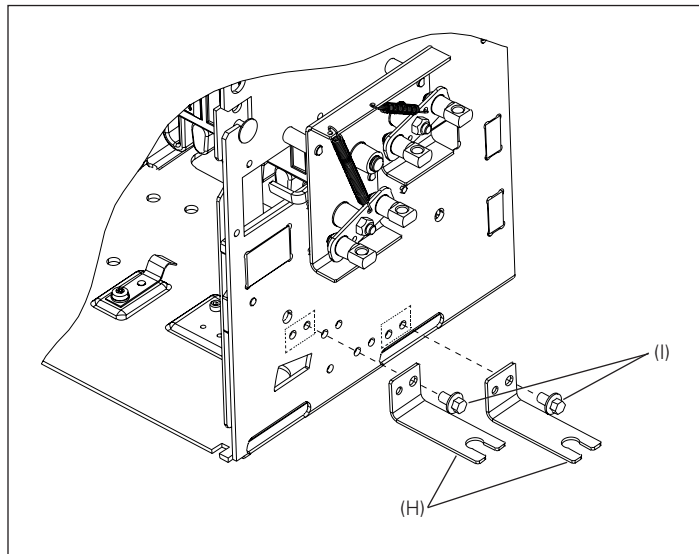

Figure 8. Details for Step 4
Fasten two cable brackets (H) to the drawout cassette's right-side sheet, just below interlock assembly mounted in Step 3, using two M6 x 10 mm thread-forming screws (I) as shown in Figure 8. Torque to 7,3–9,6 N·m (65–85 in-lb).